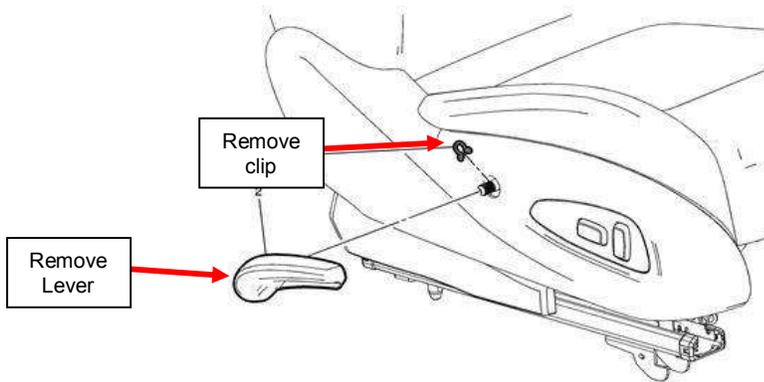

Figure 3
- Remove the outer seat trim cover from the affected seat/seats, refer figure 3. Remove the recliner lever clip and then remove the recliner lever. Remove the rear screw cap and the rear T25 screw from the rear face of the side trim, refer figure 4. Remove the front T25 screw from the front inside face of outer trim, refer figure 5.